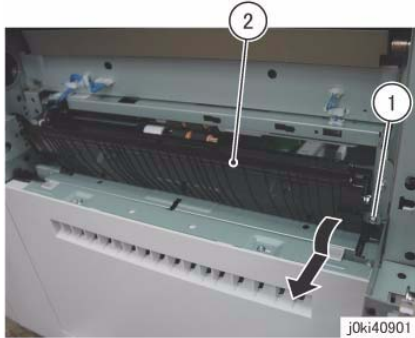

Figure 1 Remove the Chute Assembly
6. Remove the Chute Assembly from the Tray 1 Feeder Unit. (Figure 1)